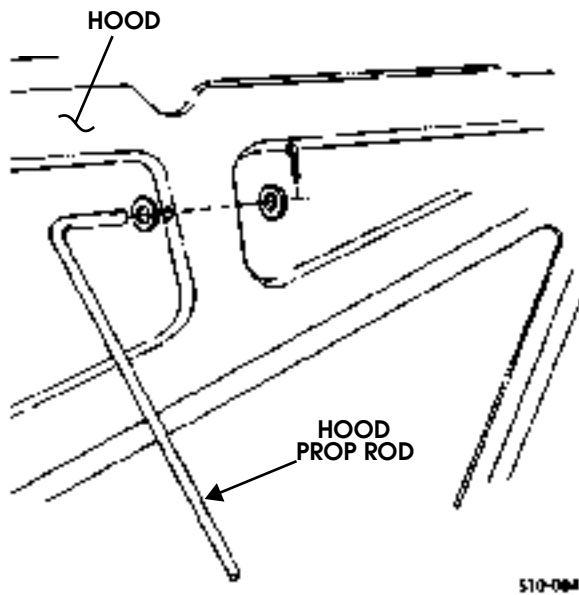

Figure 10-81: Hood Prop Rod Replacement
2. Remove cotter pin, two washers, and hood prop rod from hood (Figure 10-81).
2. Secure hood prop rod to hood with two washers and cotter pin (Figure 10-81).